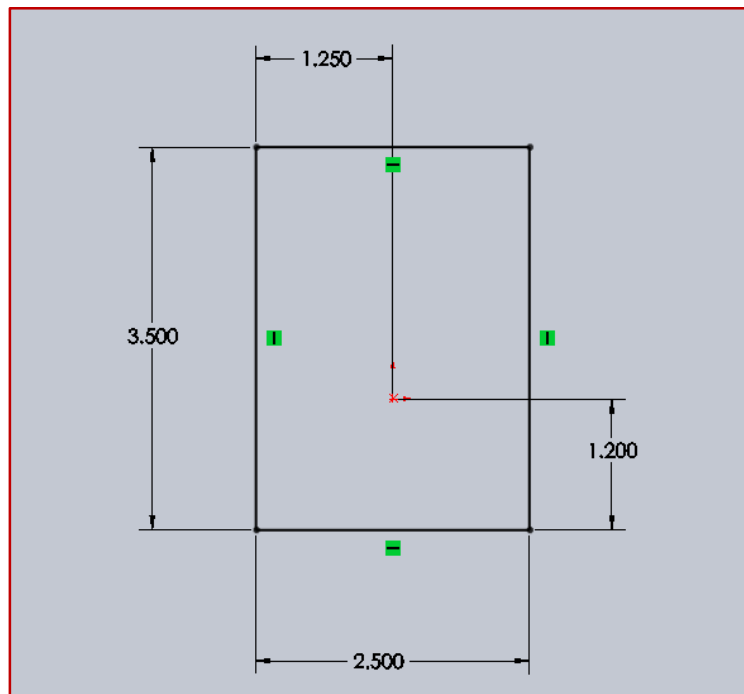

Figure 8.1 – Sketch for Truck Base
- ✓ Sketch on the **Top Plane**, the rectangle in Figure 8.1.